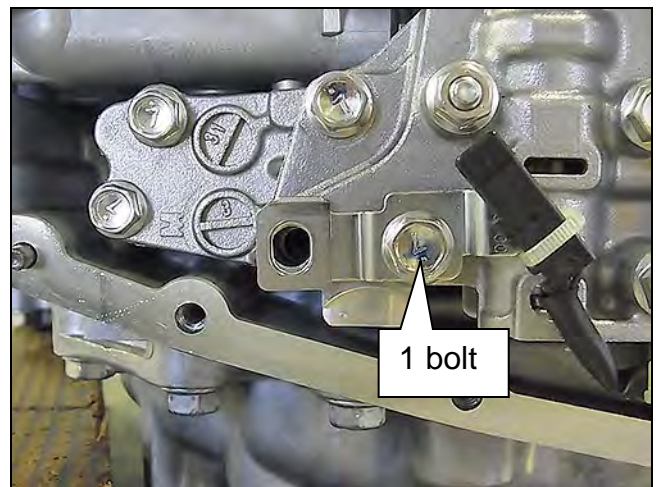

Figure 26
6. Install the CVT fluid temperature sensor bracket to the valve body with one (1) bolt (Figure 26).
**NOTE:** Leave one (1) bolt hole blank as it will be used to secure the oil strainer at a later step.